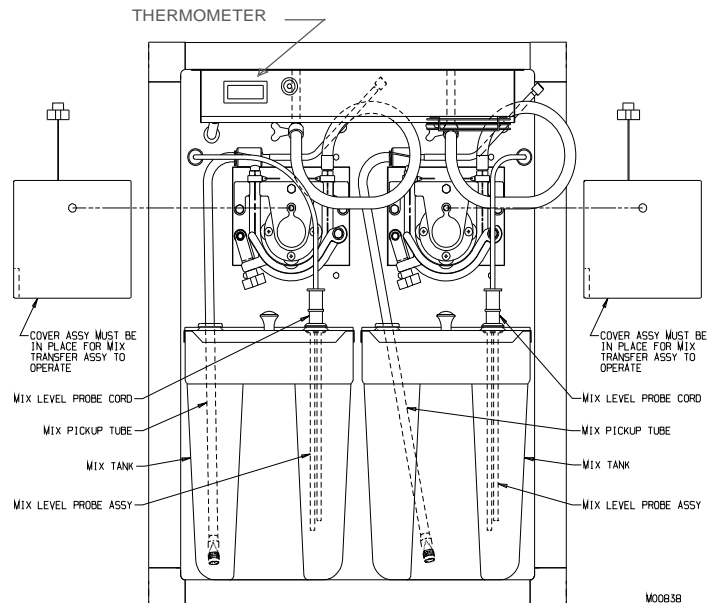

Figure 5-2
5.8 Probe - “ADD MIX” (See Figure 5-2)
5.9 Thermometer - Cabinet (See Figure 5-2)